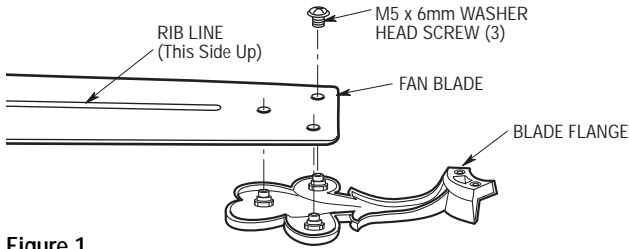

Figure 1
- 1. Mount blade flanges to fan blades (rib line facing up) using three M5 x 6mm stainless steel washer head blade screws (Figure 1).